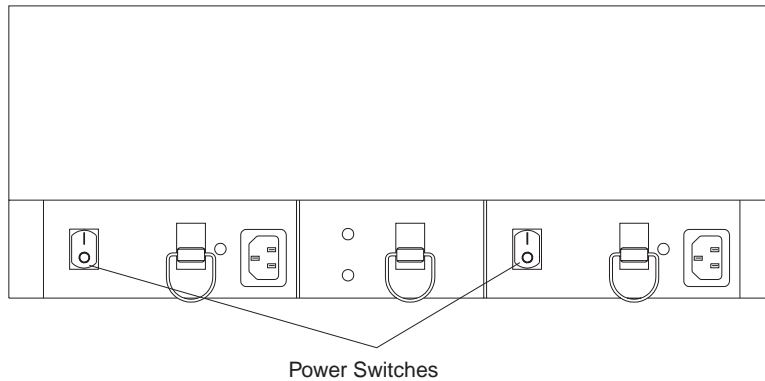

Figure 15. Controller unit power switches (rear view)
2. If you are turning on the controller unit after a normal shutdown, turn on both power switches on the back of the controller unit (see Figure 15 on page 25). You must turn on both switches to take advantage of the redundant power supplies. Then, go to "Using the status LEDs" on page 27.
3. Turn off the power switches on the controller unit before removing power from drive enclosures (see Figure 15 on page 25).